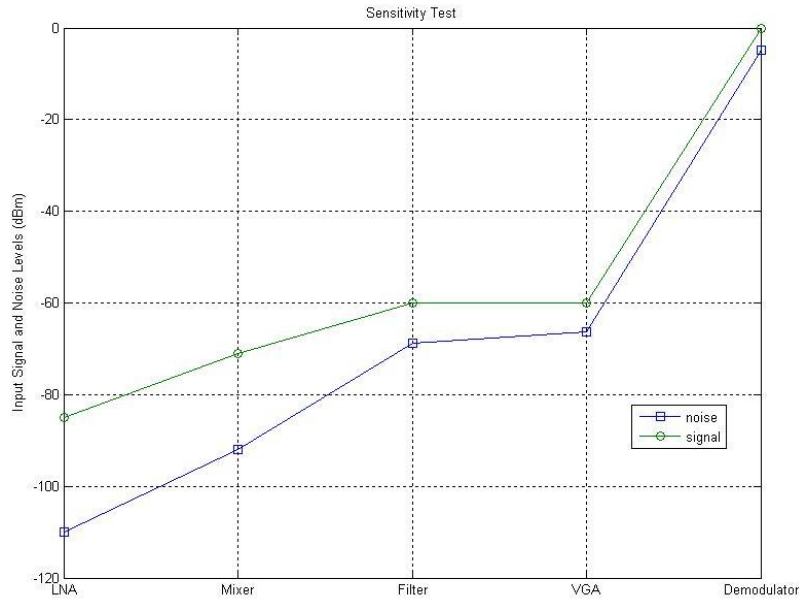
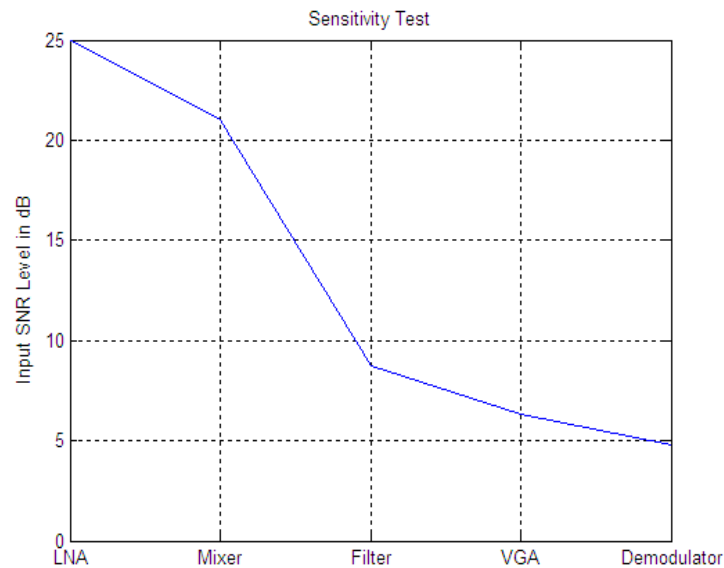

Figure 3. Signal and noise levels at the input of each building block
Figure 4. SNR at the input of each building block
1. For the Zigbee receiver described in Table 2, add a passive band-selection filter between the antenna and LNA with an insertion loss of 2 dB. Complete and verify the equations in your Matlab script or Excel chart to find the overall NF and IIP3 performance. Plot the signal levels, noise levels and SNR at the input of each block as shown in figure 3 and figure 4. Show explicitly how you calculate input signal and noise levels for building blocks of the receiver.